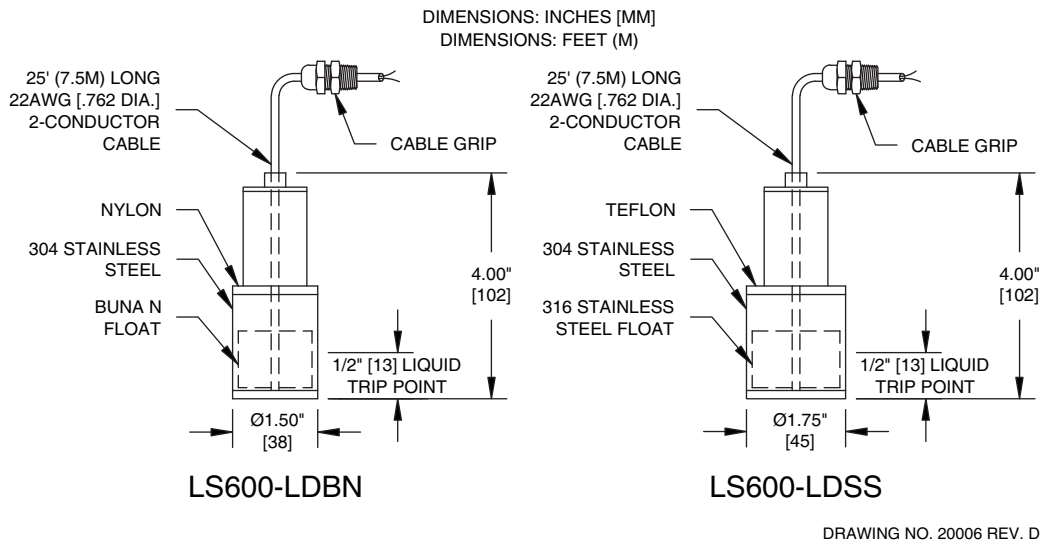

Figure 1-5 – LS600 LD Series
TMS2000 can be integrated with a variety of liquid sensors used for monitoring secondary containment areas around tanks and pipes. The maximum is 8 sensors depending on the overall job configuration; check the specific job design drawings for the actual number and type specified. Figures 1-5 through 1-8 show four (4) typical sensor types provided by Pneumercator with their most typical applications. Other non-Pneumercator models may be used; however, their use with TMS2000 should have been approved before attempting to wire them into the system.